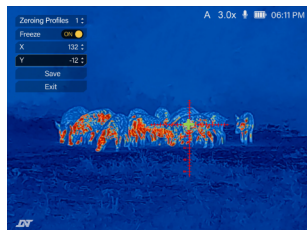

Figure 2
6. In [X] and [Y], adjust the position of the reticle so that its center matches the POI +, as shown in **Figure 2**.